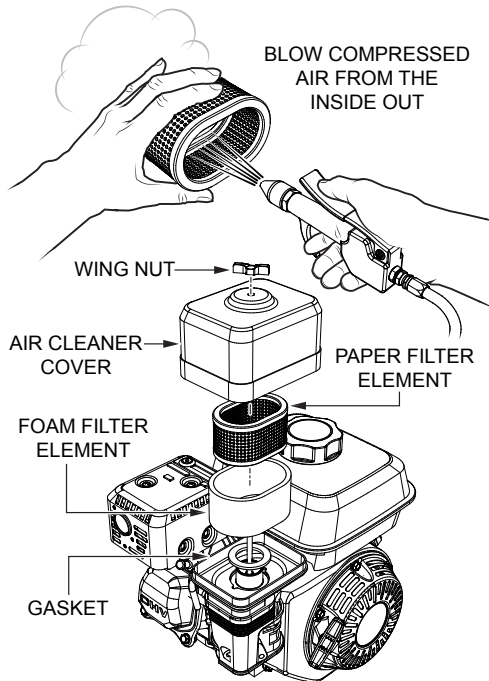

Figure 40. Engine Air Cleaner
1. Remove the air cleaner cover and foam filter element as shown in Figure 40.
2. To remove dirt, tap the paper filter element (Figure 40) several times on a hard surface, or blow compressed air not exceeding 30 psi (207 kPa, 2.1 kgf/cm2) through the filter element from the air cleaner case side. **NEVER** brush off dirt. Brushing will force dirt into the fibers. Replace the paper filter element if it is excessively dirty.